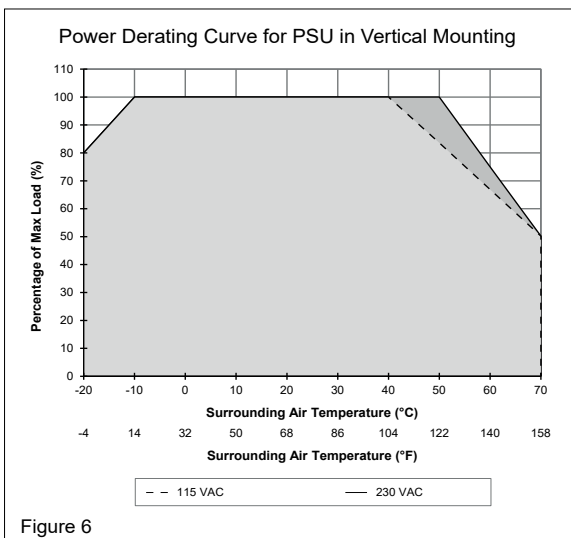

Figure 6
5.4. Thermal behavior (Fig. 6)
Derating	Refer to Fig. 6 -10°C to -20°C (2%/°C), > 40°C (1.67%/°C) @ 115VAC -10°C to -20°C (2%/°C), > 50°C (2.5%/°C) @ 230VAC